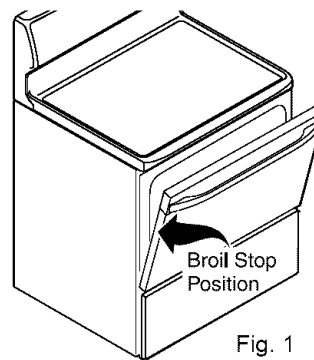

Fig. 1
6. Place the broiler pan & insert on the oven rack (some models). **Open the oven door to the broil stop position when broiling** (See Fig 1).